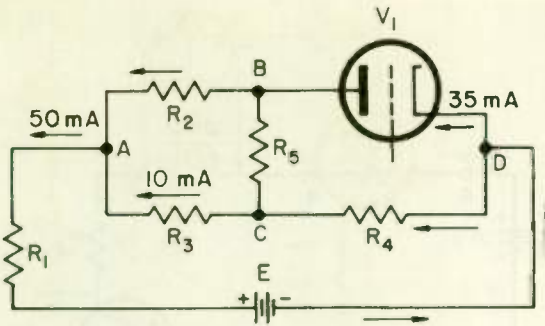

Fig. 43
- (1) Flows into the tube
- (2) Flows out of the tube
5. The current through R_4 in Fig. 43 is
6. The current through R_5 in Fig. 43 is
7. The current through R_2 in Fig. 43 is
8. Having found the currents in R_2 , R_4 , and R_5 in Fig. 43, you should next check your answers by